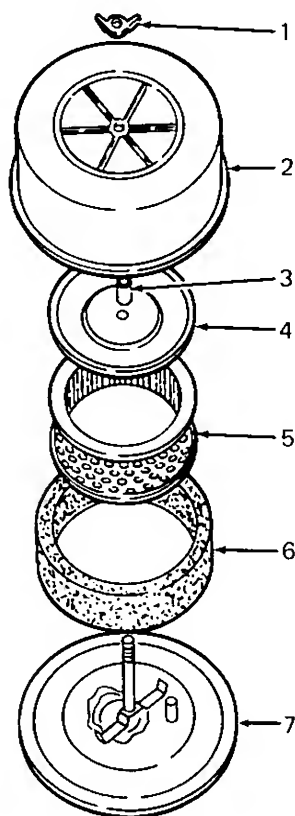

Figure 27. Air Cleaner Assembly
1. Remove wing nut and cover. (Refer to Figure 27.)
This engine is equipped with a dry type air cleaner element, which should be checked every 100 operating hours and replaced if dirty. It should be checked and if necessary replaced more often under extremely dirty, dusty conditions. Do not wash element in any liquid or attempt to blow dirt off with air hose as this will puncture filter element. Carefully handle new element — do not use if gasket surfaces are bent or twisted. Check the following when installing a new element: (Refer to Figure 27.)